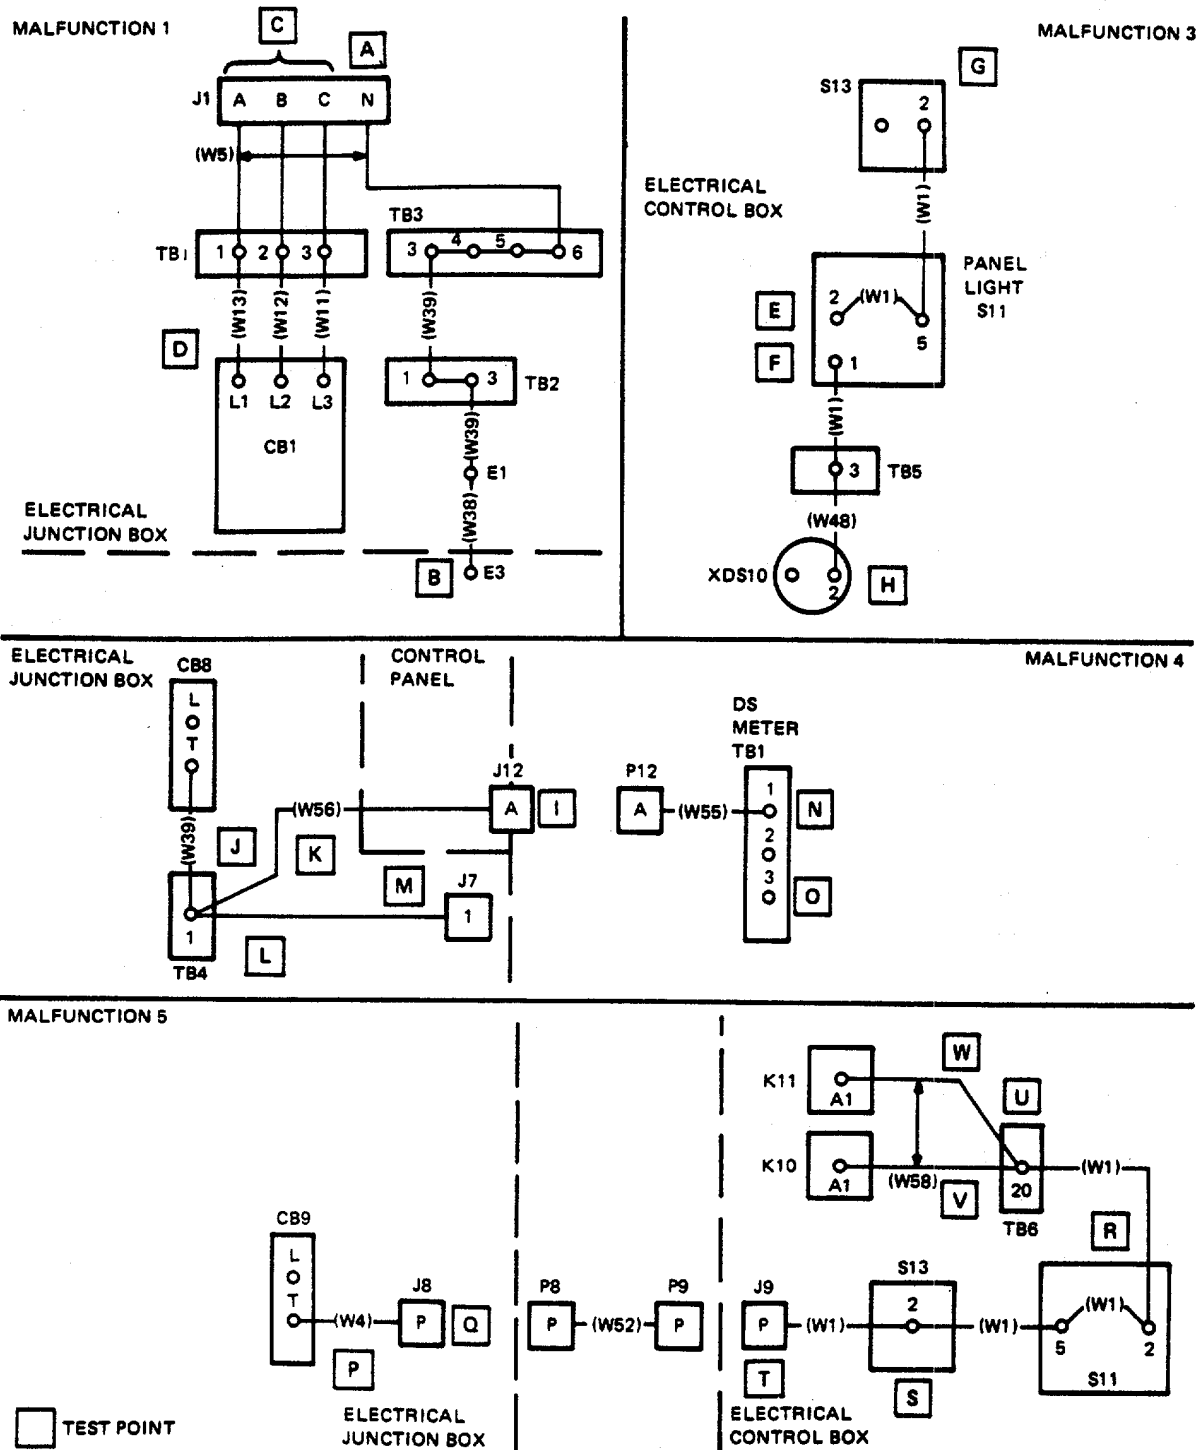

Figure 3-3. ROWPU Support Diagram
Refer to figure FO-3 for schematic diagram and figure FO-4 for interconnection diagram. Refer to figure 3-1 for control box support diagram, figure 3-2 for junction box support diagram, and figure 3-3 for ROWPU support diagram.
- Step 1. Refer to ROWPU support diagram figure 3-3. Perform continuity check between test points A and B. If check indicates continuity, go to step 2.
- Step 2. Refer to ROWPU support diagram figure 3-3. Perform continuity check between test points E and F.
Remove power from unit by disconnecting power cable at MAIN POWER IN jack J1 before connecting, disconnecting, or replacing any lead or parts. Refer to figure FO-3 for schematic diagram and figure FO-4 for interconnection diagram. Refer to figure 3-1 for control box support diagram, figure 3-2 for junction box support diagram, and figure 3-3 for ROWPU support diagram.
Remove power from unit by disconnecting power cable at MAIN POWER IN jack J1 before connecting, disconnecting, or replacing any lead or part. Refer to figure FO-3 for schematic diagram and figure FO-4 for interconnection diagram. Refer to figure 3-1 for control box support diagram, figure 3-2 for junction box support diagram, and figure 3-3 for ROWPU support diagram.